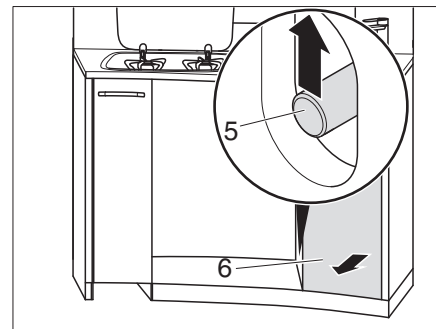

Fig. 128 Unlocking high kitchen drawers
- Grasp through the opening and slide the push rod (Fig. 128,5) upwards.